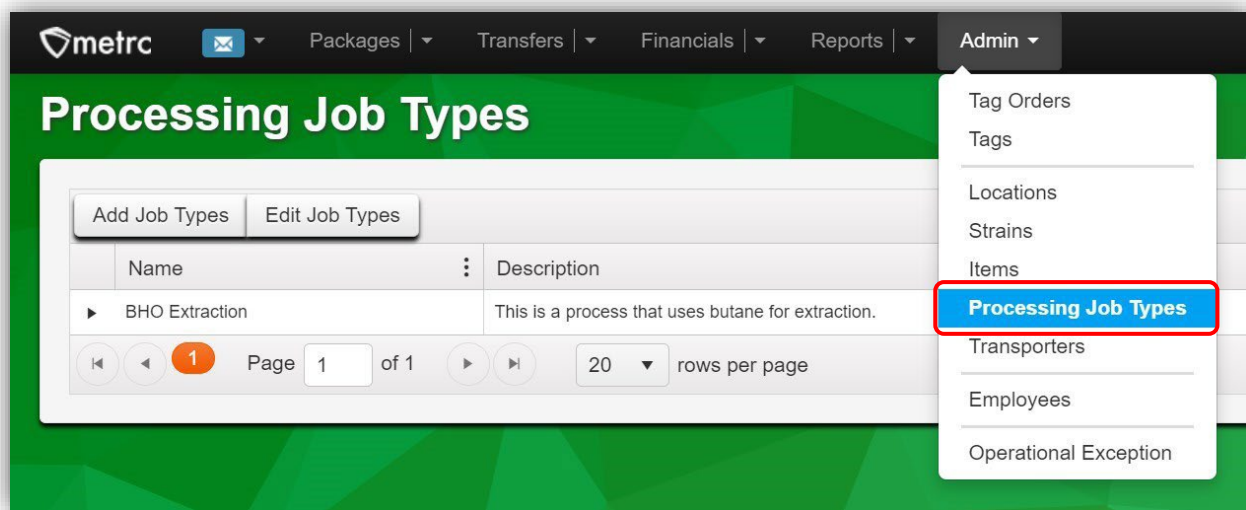

Figure 4: Processing Job Types grid in the Admin dropdown
- Go to the Processing Job Types option under the Admin area dropdown in the Navigational Toolbar – **see Figure 4.**